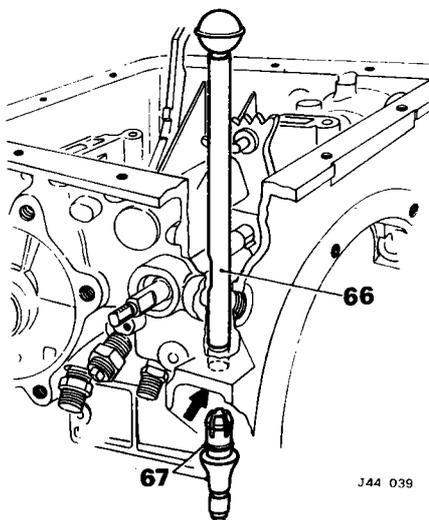

Fig. 38
66. Using Service tool CBW 62, compress lugs of the cable retaining plug (Fig. 38).
67. Withdraw the kick-down cable assembly; remove and discard the 'O' ring (Fig. 38).